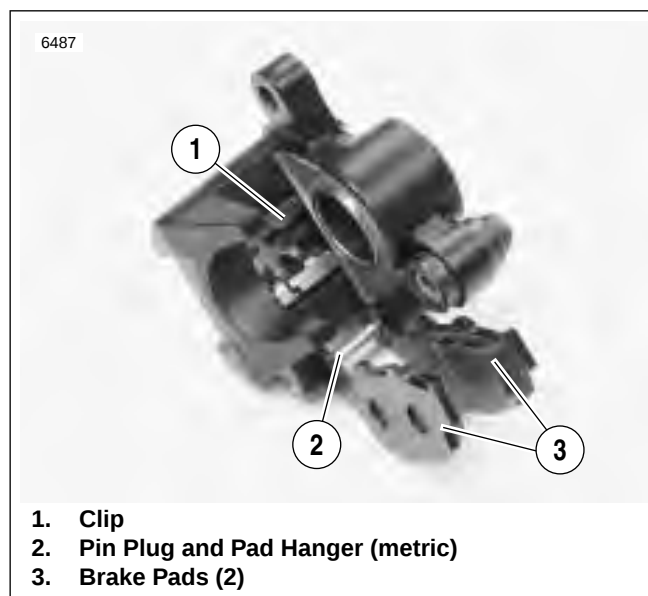
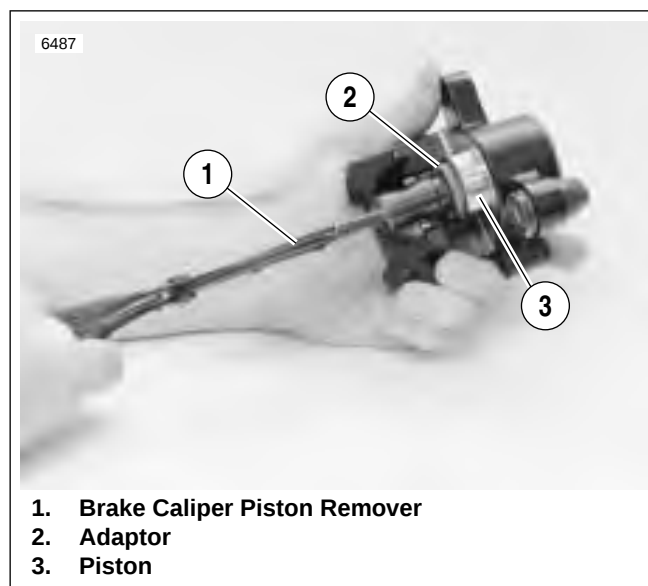

Figure 2-40. Brake Pads
Figure 2-41. Removing Rear Brake Caliper Piston
2. See Figure 2-40. Remove clip (1) from caliper body.
3. See Figure 2-41. Remove piston (3) using BRAKE CALIPER PISTON REMOVER (1) (Part No. B-42877) with adaptor (2).
1. See Figure 2-40. Place clip (1) inside caliper body as shown.
2. See Figure 2-41. Install pistons and O-rings.
- c. Install piston (3) inside caliper body.
3. See Figure 2-40. Install brake pads (3) using pad hanger and pin plug (1).